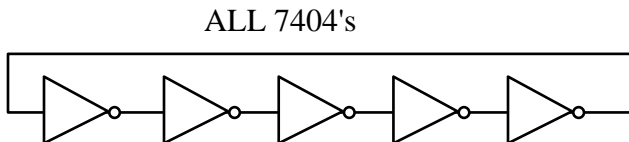

Fig. 14 IC-Based Oscillator Circuit Using 7404 IC's.
- a.) Describe the nature of the oscillatory behavior of the circuit shown below in Fig. 14. What determines the oscillation frequency? What is your prediction for the oscillation frequency? Build this circuit and then measure the oscillation frequency. Is the measured oscillation frequency in reasonable agreement with your prediction?